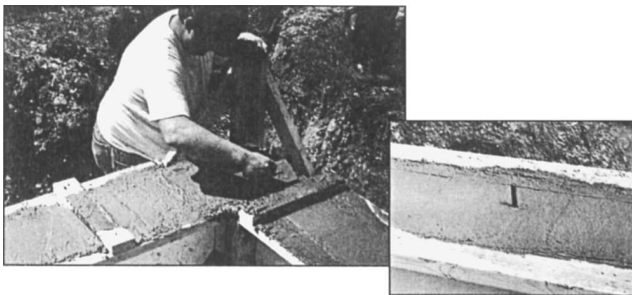

Fig. 21-21 Anchor bolt placement for roof framing. (AFM.)
7. Walls usually are poured with a boom pump truck in 4-foot increments. Anchor bolts are set in the top of the wall to secure the top plate as a nailing base for roof construction (Fig. 21-21).